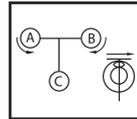

Fig.6
- Centre the circular bubble in the vial by rotating the foot screws (Fig 6)